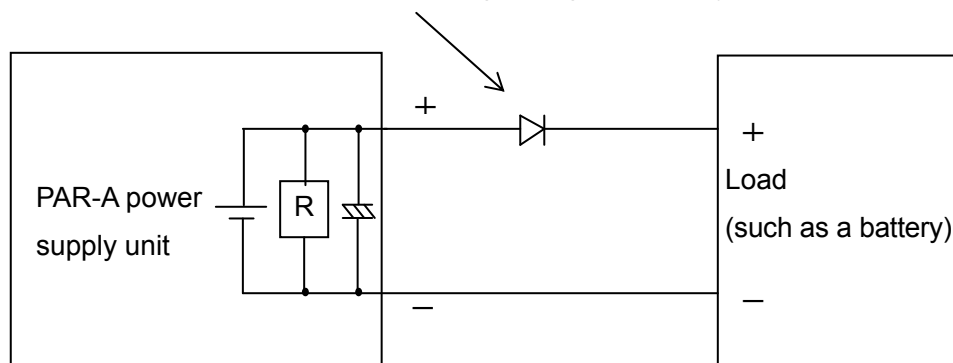

Fig.7 Connecting Load with Energy
- The PAR-A unit incorporates a capacitor of several hundred microfarads between the COM terminal and each output terminal and a resistor for discharging this capacitor when the output is turned off. When the PAR-A unit is used to charge a battery, connect a diode in series as shown in Fig.7 below to prevent electric charge of the load from being discharged to the output of the PAR-A unit.